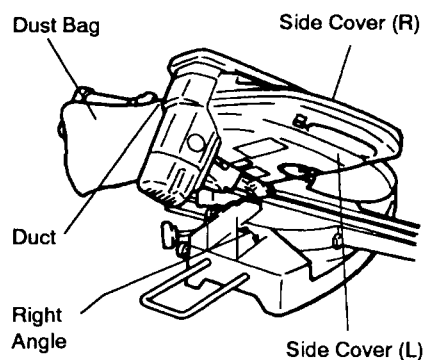

Fig. 41
- (1) When the dust bag has become full of sawdust, dust will be blown out of the bag when the saw blade rotates. Check the bag periodically and empty it before it becomes full.
- (2) During bevel and compound cutting, attach the dust bag at a right angle to the base plate as shown in Fig. 41.